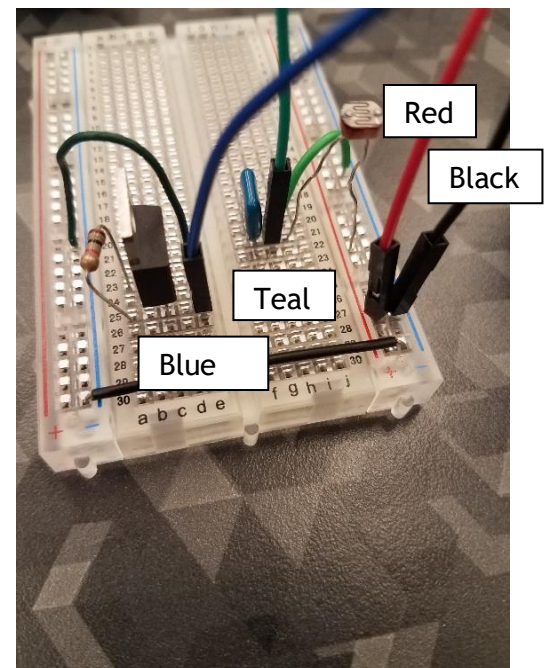

Figure 6: Raspberry Pi to Breadboard Connections
4. Next, connect the wires from the Raspberry Pi to the breadboard as shown in Figure 6. The Raspberry Pi is a mini-computer and is the "brains" of the circuit. It is used to tell the lightbulb when to turn